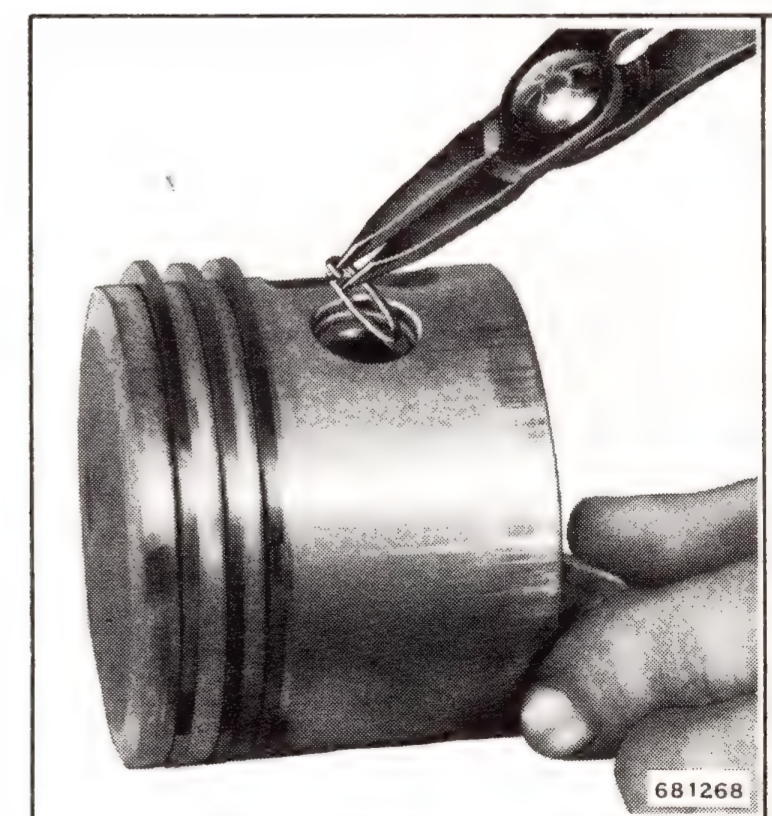

Figure 5-20. Removing Piston Pin Retaining Ring
j. Remove wrist pin retaining rings, using Truarc No. 1 pliers (Special Tool #303857). See Figure 5-20. Wrist pin is float-fitted to the connecting rod and piston. Slide wrist pin through to free piston from connecting rod. Avoid losing wrist pin roller bearings.